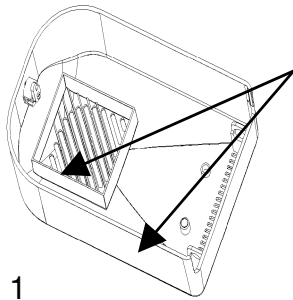

Fig 1
- Check the overall condition inside the unit and remove any debris, use a cleaning wipe (Pt. No. 010-069-00) to clean highlighted surfaces (see Figs 1 & 2) ensuring that **all** deposits are removed.